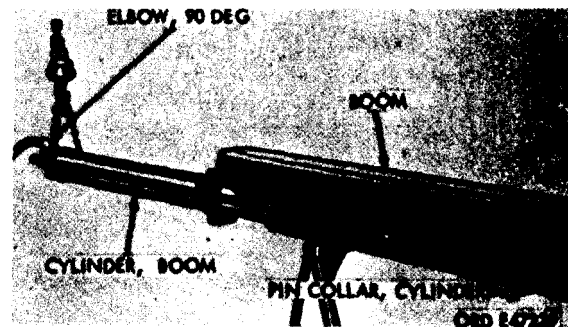

Figure 451. Removing boom cylinder from boom
(2) Removing boom cylinder from boom (fig. 451).